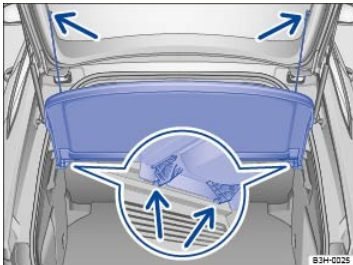

Fig. 148 In the luggage compartment: Installing and removing the luggage compartment cover.
- Unhook the supporting cords from each side of the trunk lid ⇒ *Fig. 148* (top arrows).
- Pull the luggage compartment cover until it releases from the side brackets ⇒ *Fig. 148* (bottom arrows).
- Press the luggage compartment cover into the side brackets ⇒ *Fig. 148* (bottom arrows).
- Hook the supporting cords onto the trunk lid ⇒ *Fig. 148* (top arrows).